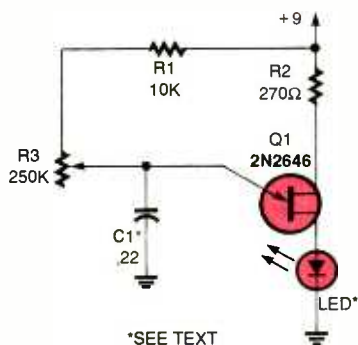

Fig. 2. This circuit is the perfect driver for IR devices or visible LEDs.
PARTS LIST FOR IR/LED DRIVER (FIG. 2)
If you work with infrared (IR) remote controls, or just like to play with IR circuits, this driver circuit (Fig. 2) is for you. The unijunction transistor is a natural when it comes to generating the fast narrow pulses required to drive IR devices or visible LEDs. The pulse rate of the oscillator circuit derived from the 2N2646 unijunction transistor is variable and controlled by potentiometer R3. Using the component values shown, you may vary the pulse rate from a few pulses per second to several thousand per second. To lower the frequency range, increase the value of